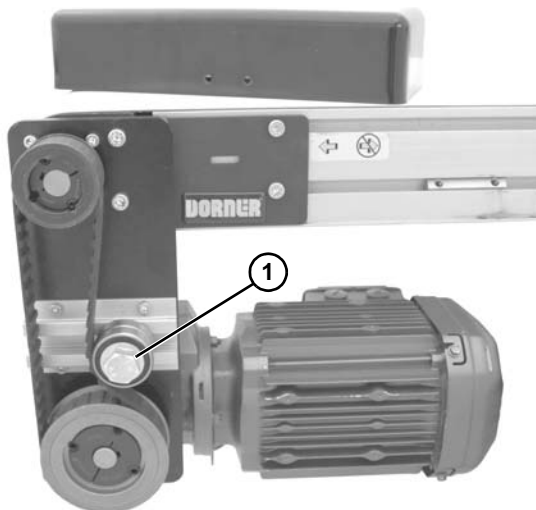

Figure 25
5. Loosen tensioner (Figure 25, item 1).